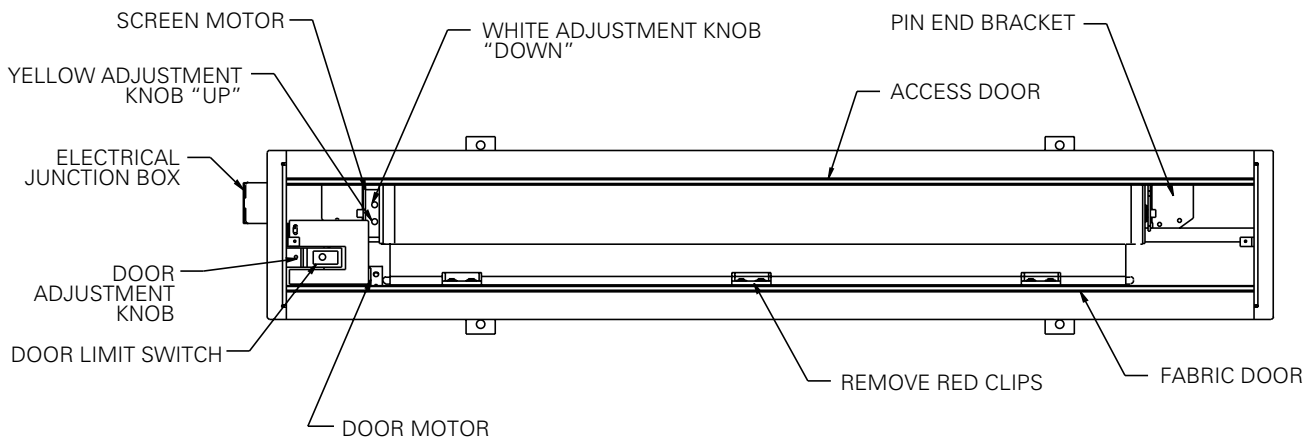

FIGURE 2
6. Remove red shipping clips by removing the hex head screws and sliding the clips off the end of the slat rod. See figure 2. (Only if the roller assembly is preinstalled.)
2. When the screen stops, turn the white **“down”** limit knob (Fig. 2) one-quarter turn counterclockwise. Test by raising picture surface approximately two feet, then lower again. Repeat until desired picture surface position is attained.
3. Turn the white **“down”** limit switch (Fig. 2) one-quarter turn clockwise. Test by raising picture surface approximately two feet, then lower again. Repeat until desired picture surface position is attained.
If the surface door does not close flush with the roller access door, it may become necessary to adjust the door limit switch (Fig. 2). Turn the adjusting knob counterclockwise in increments of one-quarter turn until the surface door is flush with the roller access door.